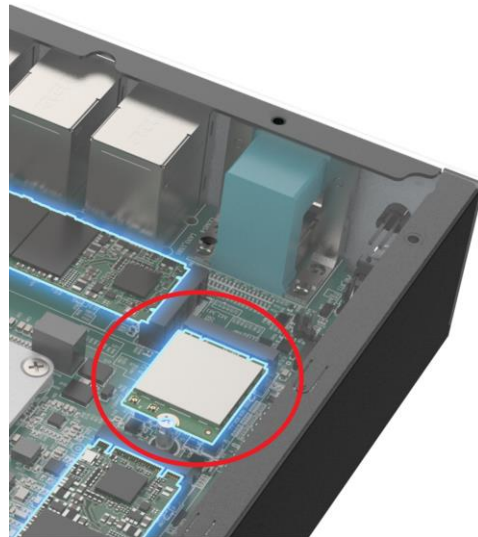

Figure 3-6: M.2 A-key Location
- Step 3:** Locate the M.2 A-key slot (Figure 3-6).